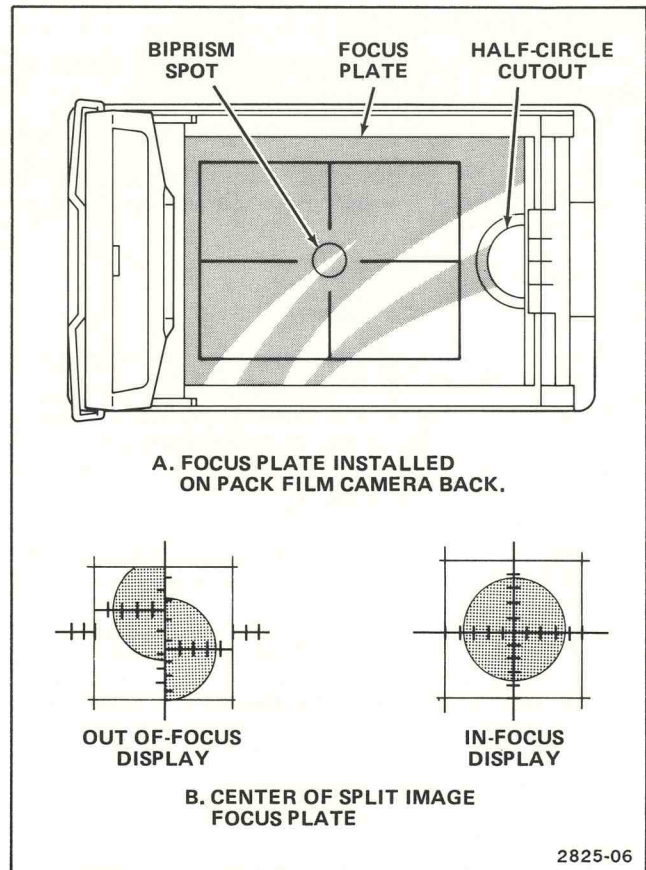

Figure 2-4. Installing and using the focus plate in the pack-film back.
2. Open the camera back by releasing the door latch and insert the focus plate where the pack film would normally be placed as shown in Figure 2-4(A).
5. Release the FOCUS LOCK knob and adjust the FOCUS knob until the trace (or graticule line) is aligned with itself. Refer to Figure 2-4(B) for an example of an in-focus display.